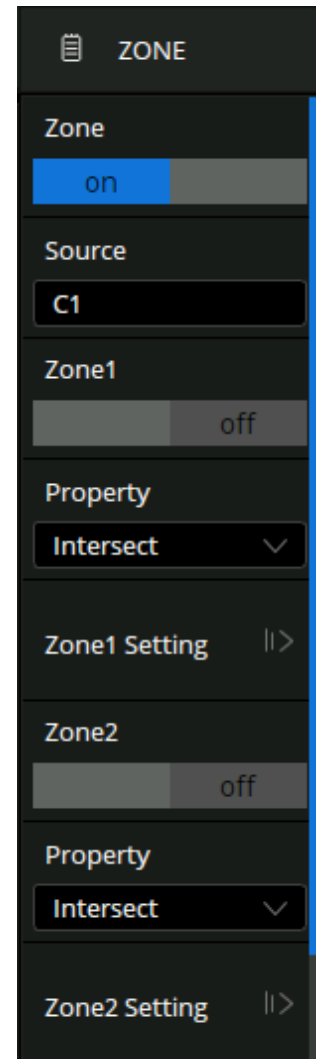

Figure 9.32
3. The menu shown in figure 9.32 will appear.